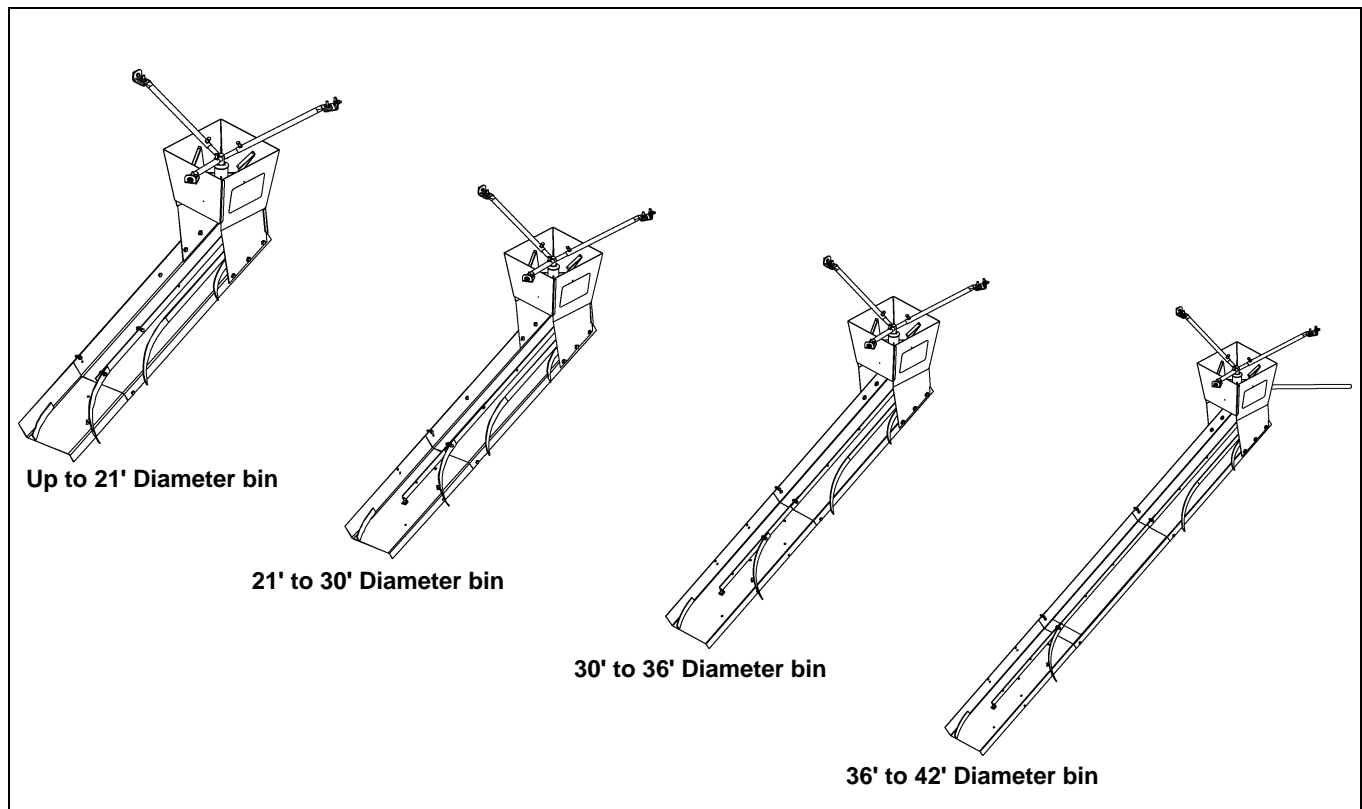

Figure 2A
1. Assemble chute (3071027-Y) to hopper (3071034-Y) with six (6) 3/8" x 1" bolts, lock washers and nuts.
2. Assemble chute (3071026-Y) to the end of the first chute with three (3) 3/8" x 1" bolts, lock washers and nuts based on the size of the bin.
- a. 21' Diameter and smaller - Assemble in the shortest position. *(See Figure 2A.)*
- b. Over 21' through 30' diameter - Assemble in the middle position. *(See Figure 2A.)*
- c. Over 30' through 36' diameter - Assemble in the longest position. *(See Figure 2A.)*
- d. The 3050 spreader can be used for bin diameters up to 42' diameter when a chute extension option (3079009-Y) is installed between the first and second chutes. **NOTE:** *The counterweight option (3079011-Y2) must be installed when using the chute extension. (See Figure 2A.)*
3. Attach the curved slinger (3071029-Y) to the bottom at the end of the second chute and to the straightening vane of the first chute (or straight extension 3071028-Y) with two (2) 3/8" x 1" bolts, lock washers and nuts.
4. When the second chute is in the middle or longest position, the straight extension (3071028-Y) is assembled to the bottom of the chute with two (2) 3/8" x 1" bolts, lock washers and nuts. This extension is not used when the chute is assembled in the shortest position.
5. **For Model 3050 with counterweight options:** Assemble the counterweight tube (3071040-Y) to the back of the hopper with two (2) 3/8" x 1" bolts, lock washers and nuts.